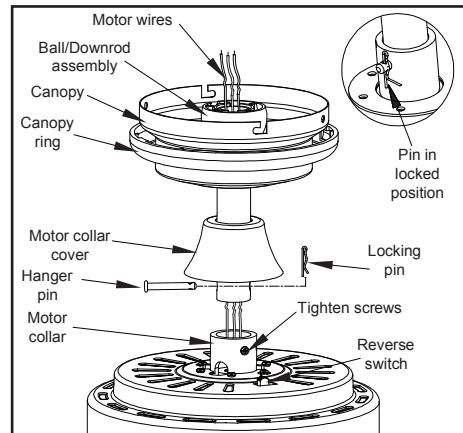

Figure 7
4. Route the wires exiting the top of the fan motor through the decorative motor collar cover then the canopy ring. Make sure the slot openings are on top. Route the wires through the canopy and then through the ball/downrod assembly. (Figure 7)
6. Align the holes at the bottom of the downrod with the holes in the collar on top of the motor housing. (Figure 7)
Carefully insert the hanger pin through the holes in the collar and downrod. Be careful not to jam the hanger pin against the wiring inside the downrod. Insert the locking pin through the hole near the end of the bolt until it snaps into its locked position, as noted in the circle inset of Figure 7.
The fan shipped from the factory with the reversing switch positioned to circulate air downward. If airflow is desired in the opposite direction, turn your fan off and wait for the blades to stop turning, then slide the reversing switch (located at the top of the motor housing, refer to figure 7 on page 4) to opposite position, and turn fan on again. The fan blades will turn in the opposite direction and reverse airflow.